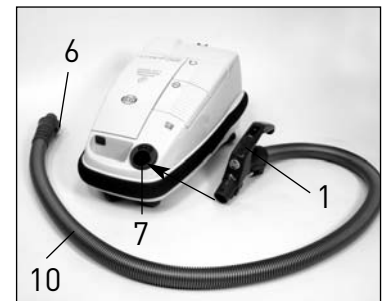

Figure 16
Clogs in the Hose - Figure 16
Remove hose (10) from vacuum cleaner (see figure 16) and remove filter bag cover (figure 13, page 9). Clean out entrance to bag (50).